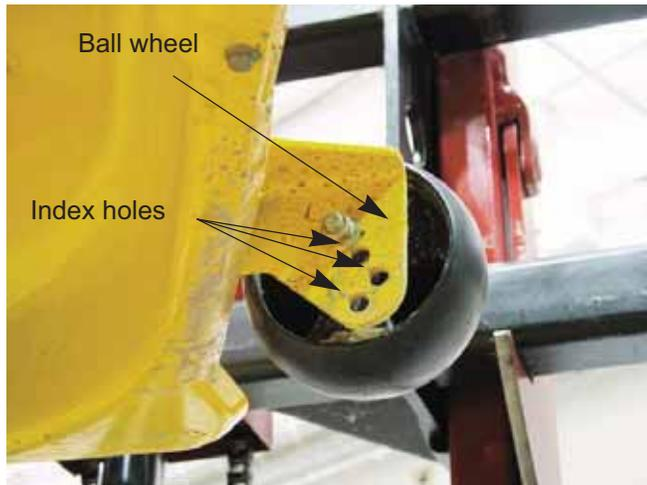

Figure 8.21
4. Reposition the ball wheel to align with the one of four index holes that places the wheel 1/4" to 1/2" above the ground. See Figure 8.21.